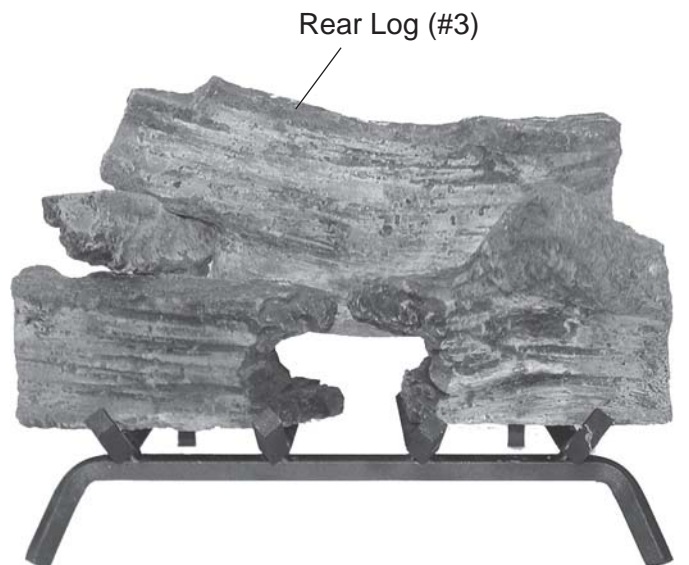

Figure 96 - Installing Rear Log #3
5. Fit cutout in the bottom left of Rear Log #3 over the back end of log #1A. Rest right end of Log #3 on rear grate bar. See Figure 96.